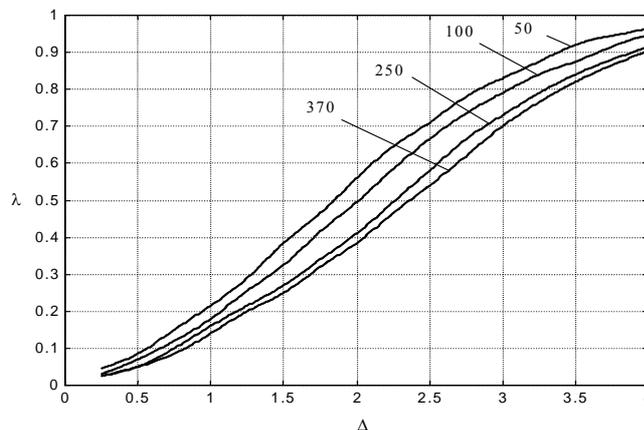

Figure 6 – Nomogram for optimal λ vs. shift Δ
3. Choose the parameter λ which produces a minimal ARL for the critical shift using Crowder's nomogram (Fig. 6). This nomogram is for $ARL(0) = 370$ or 250 or 100 or 50 and for the shift from 0,25 to 4 where the shift is expressed as a multiple of the standard deviation of the sample average Δ ($\Delta = \delta \cdot \sqrt{n}$, where n is a sample size).
3. For $\Delta = 1,118$ through the curve for $ARL(0) = 370$ in nomogram on the Fig. 6 we have found that the optimal parameter λ is approximately 0,17.